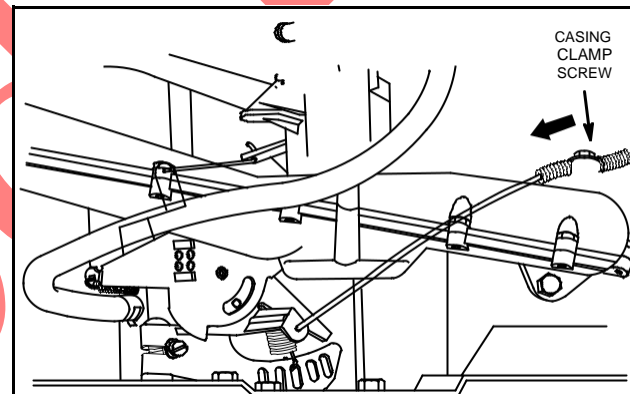

Fig. 8 – Remote Control Adjustment – Pre-Twin II Vertical Crankshaft (Type Nos. Below 1100)
3. Move control casing and wire in direction shown by arrow, Fig. 8.